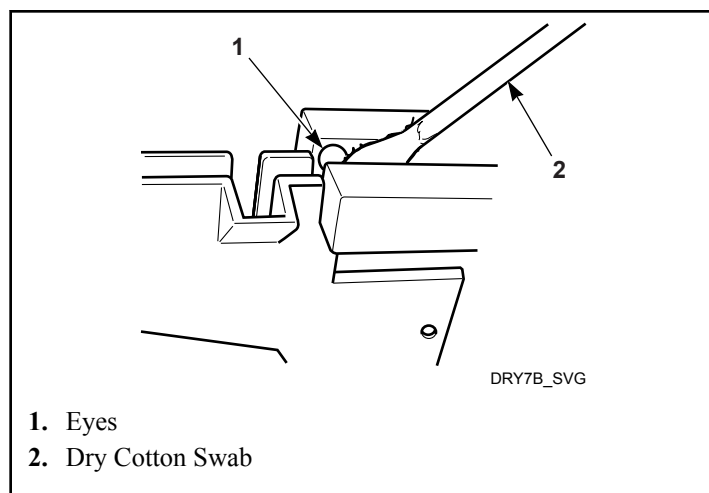

Figure 28
10. Check coin drop sensor for dust or dirt on eyes. Wipe eyes with dry cotton swab. Refer to *Figure 28*.